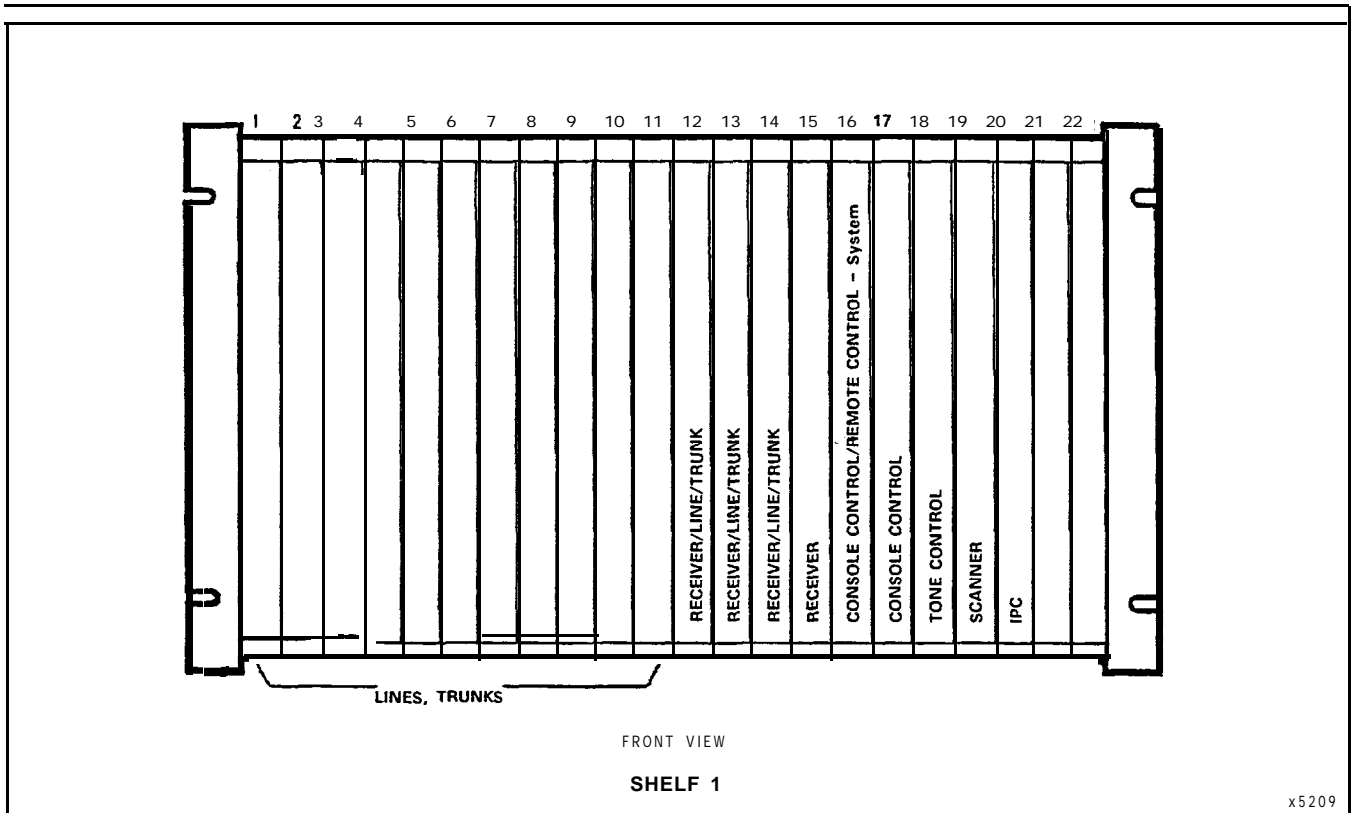

Figure 2-1 Equipment Shelf
2.02 Figure 2-1 illustrates the card locations in the equipment shelf or shelves. A visual display of all cards is shown in Figures 2-2, 2-3(a) and 2-3(b). Fuses on the backplane of the shelf are described in paragraph 2.25.